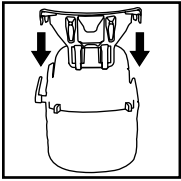

FIGURE 1
2. With rear of unit facing you, take tool holder and position it with the tabs facing rear tank cover. **FIGURE 1.**